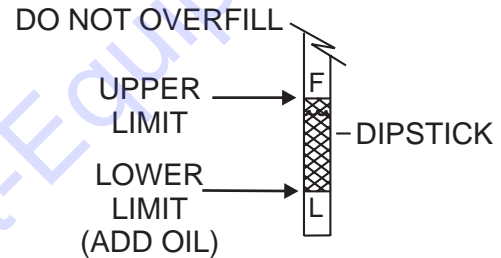

Figure 40. Dipstick Engine Oil Level
- Determine if engine oil is low. Oil level should be between the upper and lower limit (Figure 40) on the dipstick.